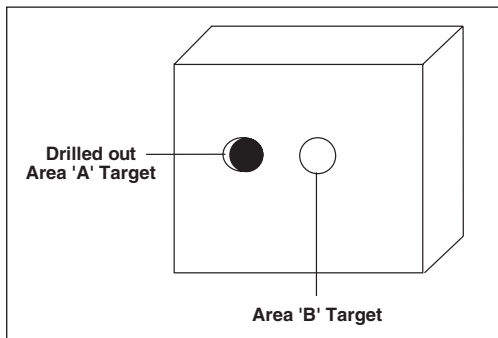

Figure C-2. Determining Emissivity with a Drilled Hole
3. Set the emissivity to 0.97 and measure and record the temperature of the hole in the sample material - Area 'A' in Figure C-2. Make sure that the hole fills the FOV of the thermometer.
4. Aim the thermometer at another spot on the target as close as possible to Area 'A' (Area 'B' in Figure C-2).